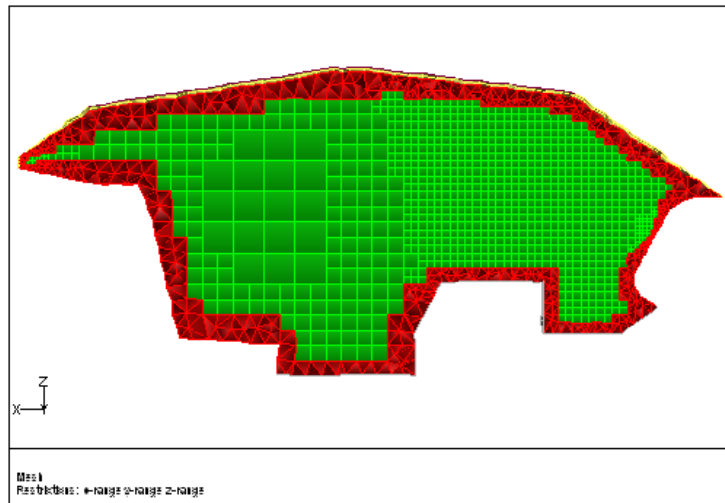

Figure 5.14: Slide of Cells at $y = 50$
9. Display the slide of cells at $y = 50$ and $y = -525$ (Figures 5.14 and 5.15).